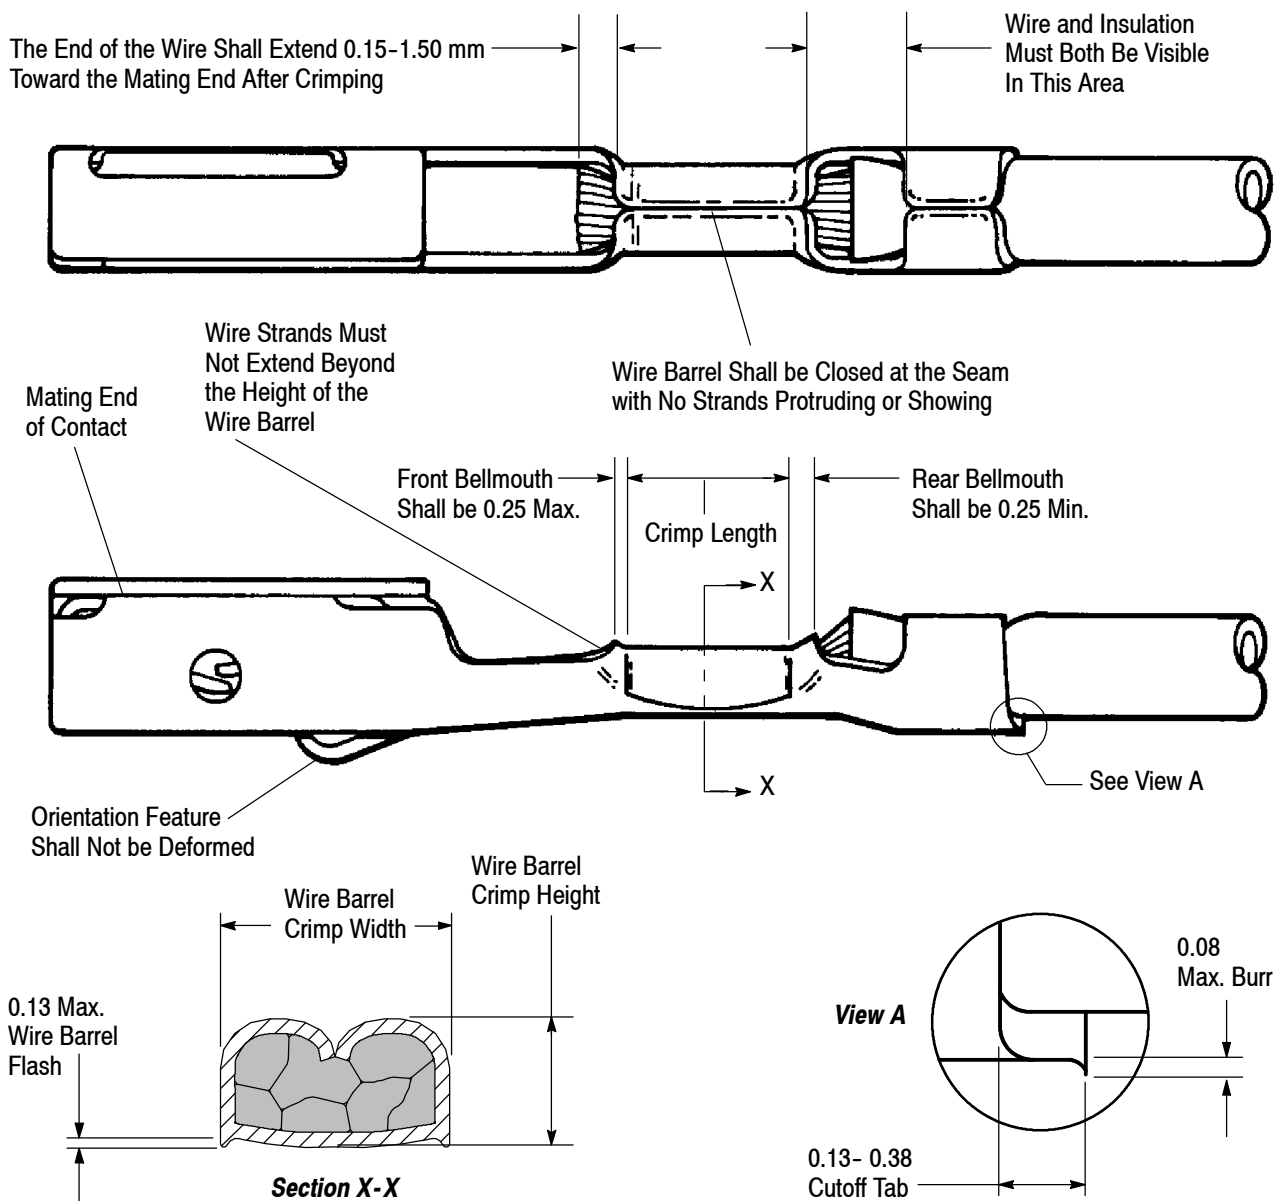

Figure 3
*Periodic inspections must be made to ensure crimped contact formation is consistent as shown in Figure 3.*
For optimum crimp effectiveness, the crimp must be within the area shown in Figure 3. Effective crimp length shall be defined as that portion of the wire barrel, excluding bellmouth(s), fully formed by the crimping tool. Instructions for adjusting, repairing, and inspecting tools are packaged with the tools. See Figure 6.
Front and rear bellmouths shall be evident and conform to the dimensions given in Figure 3.
The cutoff tab shall be cut to the dimensions shown in Figure 3 in View A.
The cutoff burr shall not exceed the dimensions shown in Figure 3 in View A.
The wire barrel flash shall not exceed the dimensions shown in Figure 3 in Section X-X.
The conductor may extend beyond the wire barrel to the maximum shown in Figure 3.